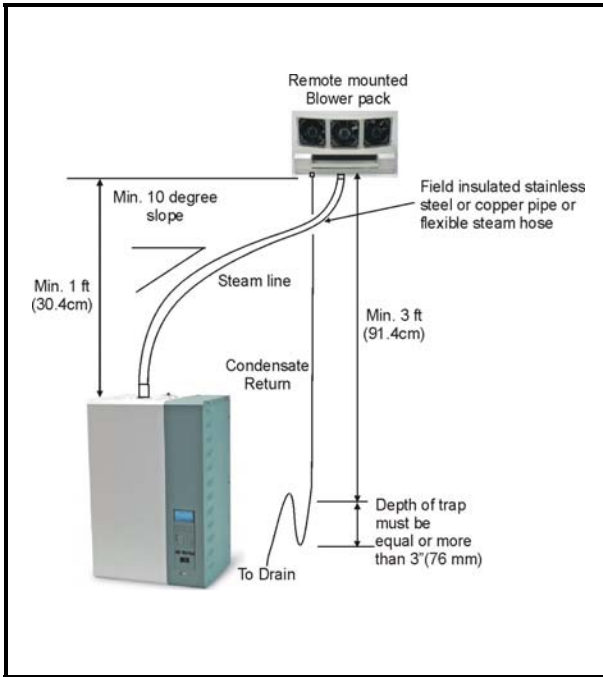
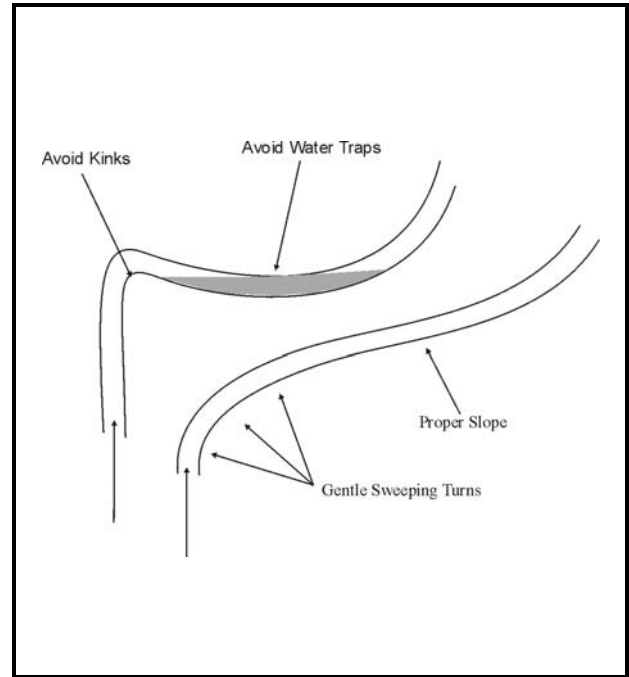
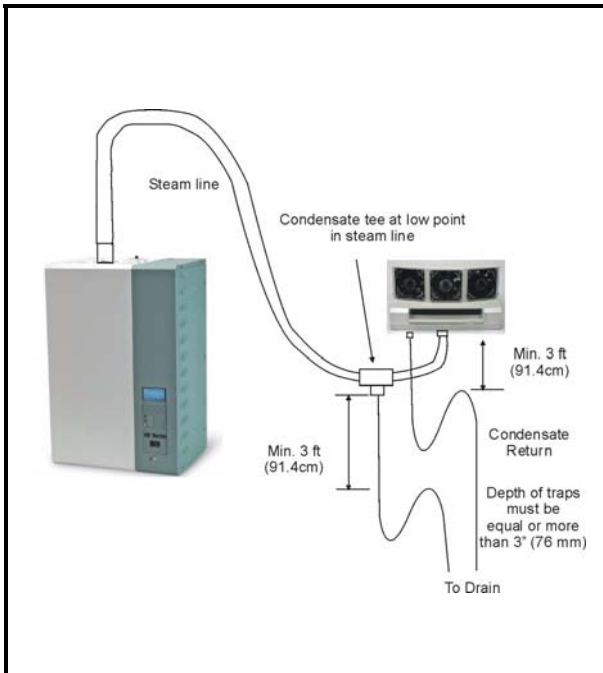

Figure 3. Steam Line Installation
Figure 4. Steam Hose Installation
Figure 5. Condensate Removal
| Figure 3. Steam Line Installation | 4 |
| Figure 4. Steam Hose Installation | 4 |
| Figure 5. Condensate Removal | 4 |
- (1) Field-supplied hard copper tubing or stainless steel tubing with 1/2" thick (min.) insulation is recommended for steam supply. Use NORTEC supplied steam hose to make connection from the humidifiers to the metal lines. See Figure 3 Steam Line Installation.
- (2) Do not install electric zone valves on steam lines. Improper adjustment will over-pressurize the humidifier.
- (3) NORTEC steam supply hose or field-supplied tubing should be sloped downwards from the blower pack to the humidifier. Slope should be at least 2" in 12" (10 degree slope) to promote condensate run back. See Figure 4 Steam Hose Installation. If upward slope is used from the blower pack to the humidifier, the slope should be at least 2" per 12" to promote condensate removal at the blower pack. If this slope is not possible, condensate must be removed before the blower pack. See Figure 5 Condensate Removal.
- (4) Minimize the length of steam line and keep it as straight as possible, minimizing bends. Avoid using 90° elbows. Wherever possible, use long radius turns (using tube bender on oversized copper or pairs of 45° elbows). This will reduce the condensate generated by heat loss. This will also reduce the back pressure and avoid the need to install an extended water trap.
- (5) Ensure that the steam hose does not kink or sag. The steam hose becomes more flexible when hot. The hose should be supported to prevent water traps. Only use steam hose for connection or steam line runs of 5 feet or less. See Figure 4 Steam Hose Installation.
- (6) To ensure odor-free steam, always use NORTEC steam hose. Check steam hose and hose couplings periodically for cracks, breaks, kinks. Replace as required. DO NOT substitute hose. NORTEC is not responsible for health effects or damage from substituted hose.
- (7) For GS, SE, and NH Series using large size remote mounted blower packs (>50 lbs/hr) use 1 5/8" O.D. (Nominal 1 1/2") copper tubing. For steam runs longer than 20 ft, use insulated nominal 2" copper to ensure draining of condensate.
- (8) For electric humidifiers (NHTC & NHPC only) using a small size blower pack (<30 lbs/hr), steam lines require 7/8" O.D. (Nominal 3/4") copper tubing. For steam runs longer than 20 ft, use insulated nominal 1" copper to ensure draining of condensate.
- (9) When using the GS, SE, or NHRS Humidifiers with a RO / DI water supply, all steam lines should be in stainless steel.
- (10) Do not use plastic pipe for steam distribution or hose other than NORTEC supplied. Substitution will void warranty.
- (11) If steam line is routed below the blower pack, or if the blower pack is lower than the humidifier, a condensate trap "tee" will be required to remove water at this low point. Run the condensate from the trap to the nearest drain lower than the blower pack. See Figure 5 Condensate Removal.
- (12) Do not run the steam line more than 1 foot per lb/hr output. Example, 10 lbs/hr should not have a steam run longer than 10 feet. If long runs are unavoidable, the humidifier should be sized larger to compensate for condensate losses and insulated stainless steel or copper must be used.